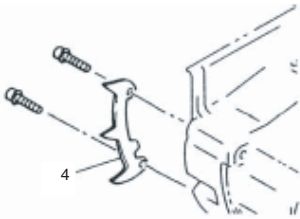

Fig. 3
* In case of installing the spiked bumper (4), install the spiked bumper (4) (if so equipped) to the unit with two screws. (Fig. 3)